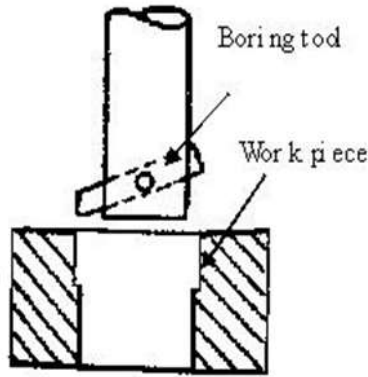

Fig. 7.11: Boring Operation
2. Boring: Boring is done on a drilling machine to increase the size of an already drilled hole. When a suitable size drill is not available, initially a hole is drilled to the nearest size and using a single point cutting tool, the size of the hole is increased to required size as shown in the fig. 7.11. By lowering the tool while it is continuously rotating, the size of the hole is increased entire depth.